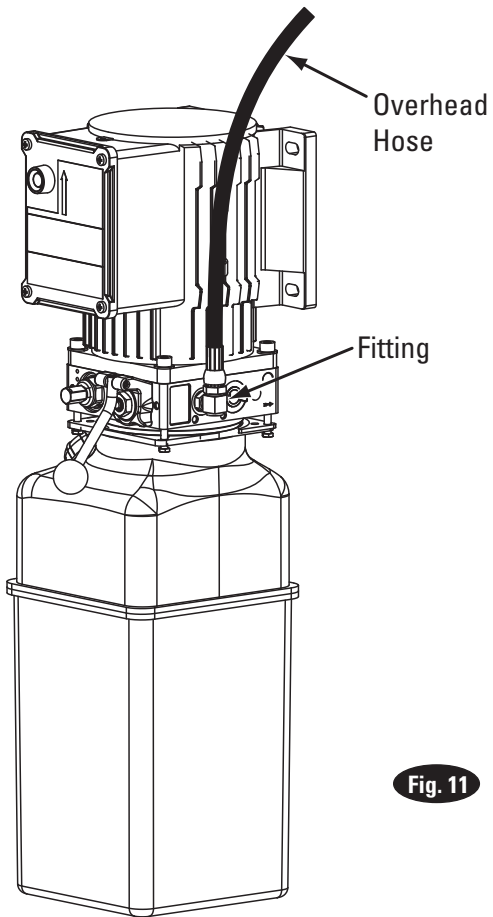

Fig. 11
11. Hoses: Clean adapters and hose. Inspect all threads for damage and hose ends to be sure they are crimped, Fig. 12a & 16a. Install hose and hose clamps, Fig. 11 & Fig. 16a.
8. Verify hydraulic return line fitting is located on fluid tank, Fig. 11. If not, install included return line fitting to power unit, Fig. 11a.